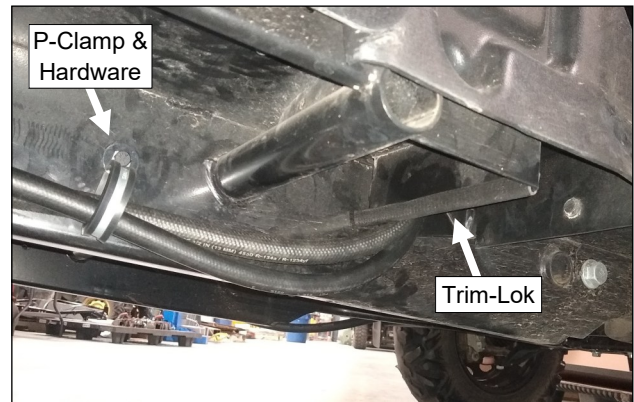

Fig. 6.1b Hose Routing
- 6.2 Install the provided pre-cut 7.25" long piece of Trim-Lok to sheet metal edge to protect hoses. See Figure 6.1b.
- 6.3 Install provided P-clamp around A/C hoses securing to vehicle frame. See Figure 6.1b.